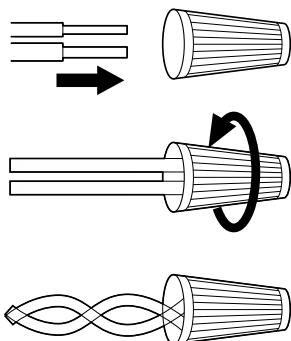

Figure 12
4. Connect the black wire of the dishwasher to the black wire of the power cable by inserting both into a wire nut and then rotating the wire connector as shown in Figure 12.